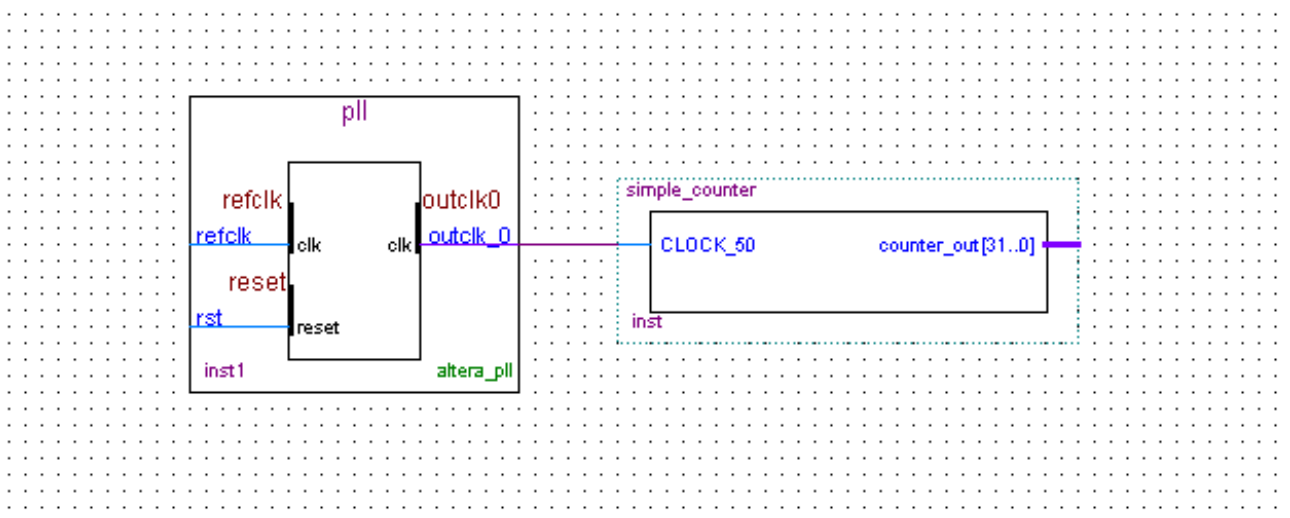

Figure 3-16 Draw a Bus Line connect pll outclk_0 port to simple_counter CLOCK_50 port
13. Click and drag a bus line from the outclk_0 output to the simple_counter clock input. This action ties the pll output to the simple_counter input (see **Figure 3-16**).